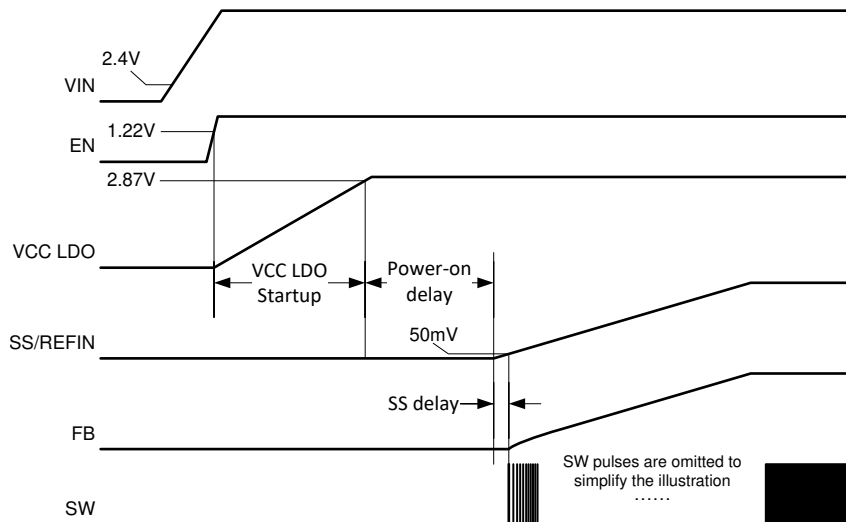

图 7-1. Internal Power-Up Sequence Using Internal LDO
**Figure 7-1** shows an example where the VIN UVLO rising threshold is satisfied earlier than the EN rising threshold. In this scenario, the VCC UVLO rising threshold becomes the gating signal to start the internal power-up sequence, and the sequence between VIN and EN does not matter.